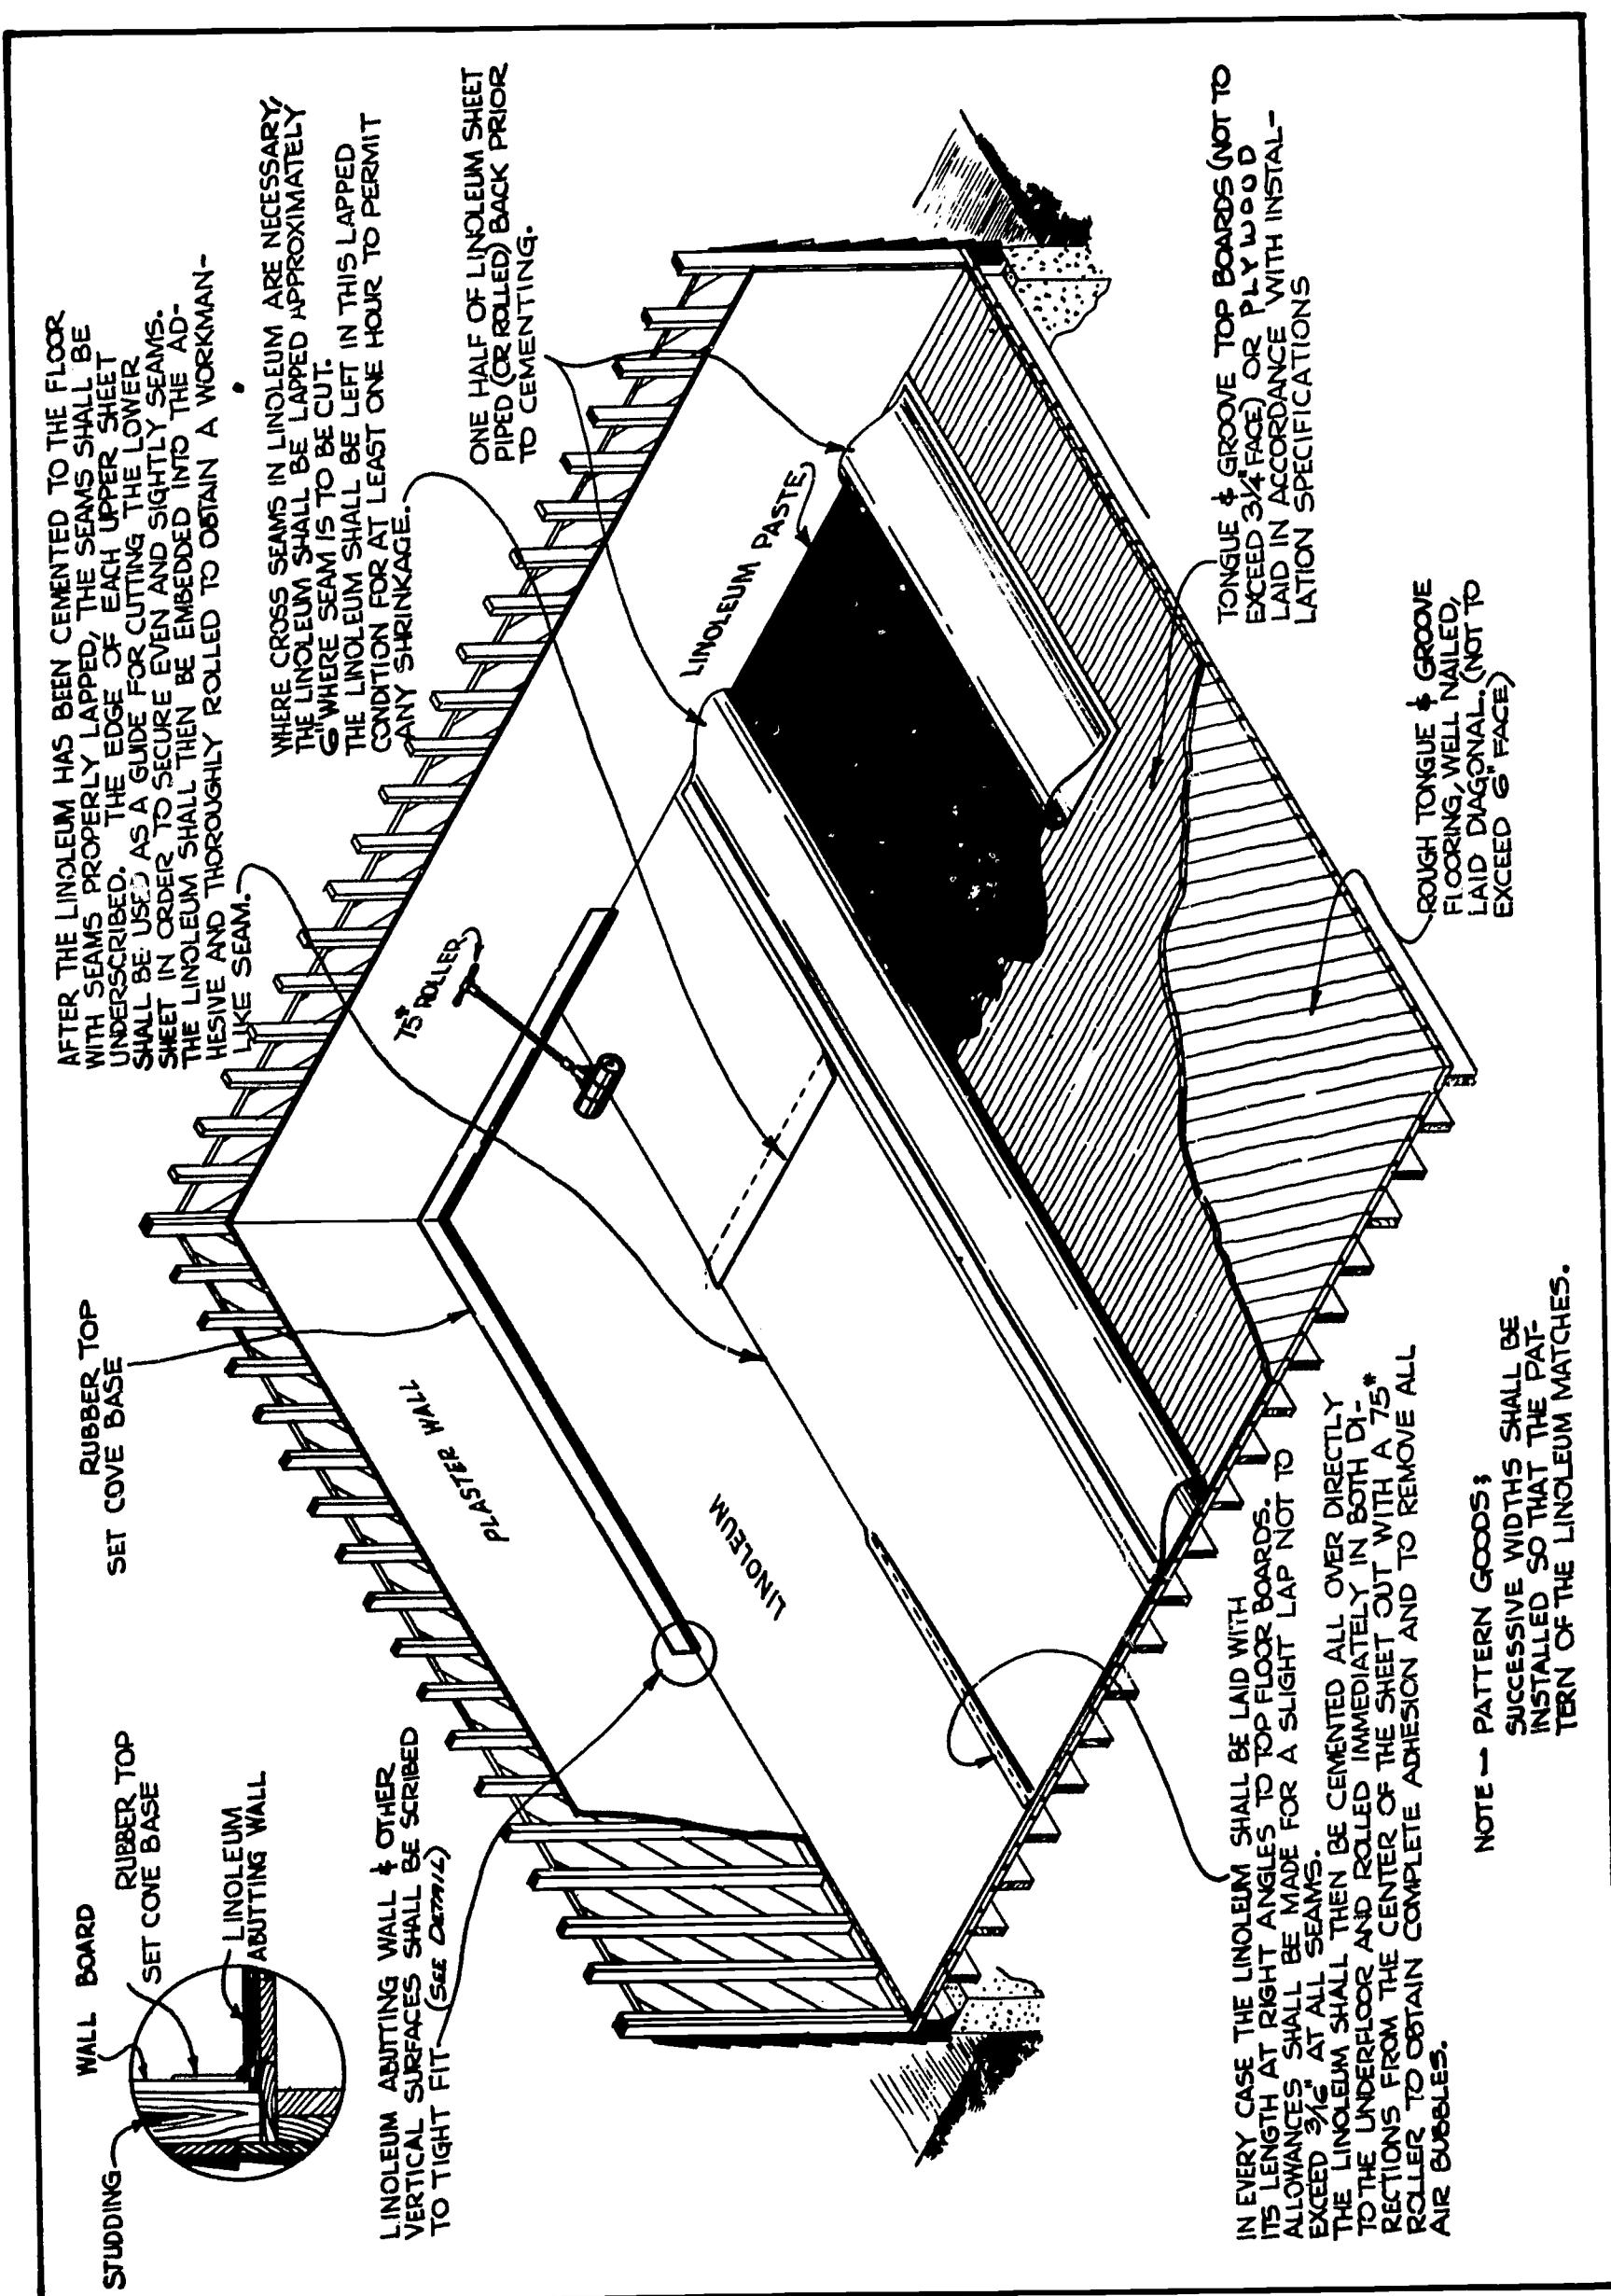

Fig. 50. Installation specifications for linoleum on suspended double-wood subfloors
Upon his arrival at a new job, the installer in charge checks the blueprint measurements and the specifications sheet drawn up by the architect. (Fig. 50 illustrates a sample set of specifications.) Checking these sources has two purposes: (1) it acquaints the installer with the job layout specifications; and (2) it helps him to avoid possible later disagreements. The installer also re-checks his firm's instruction sheet to be sure he follows that as well.